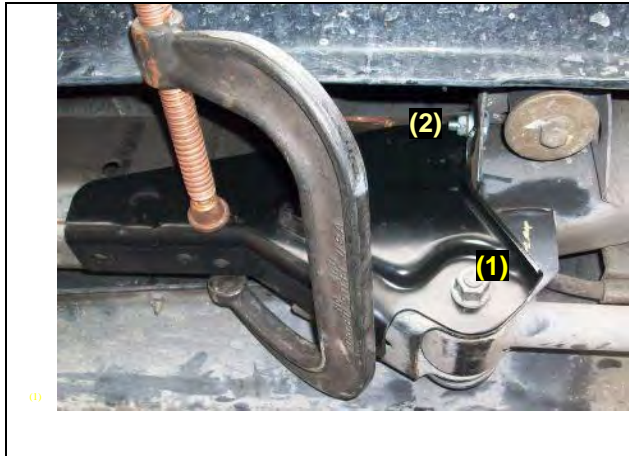

Figure 15 – Driver Side Temporary Installation (1998-2000MY only)
1. Remove the following components as per the service manual (See Figure 15):
5. Temporarily install both type “C” reinforcement brackets using the original lower link mounting nuts, “C” clamps, new body mount studs and nuts. See Figures 15 and 16.
IMPORTANT: For details on installation variations depending on model and model year, please see Figures 15, 16 and 17.